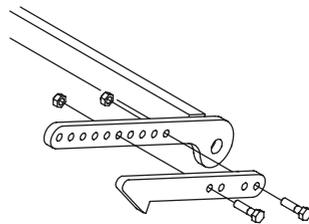

Fig. 37
5. Shorten the overall hook length (Fig. 37) by moving both sides in one hole.